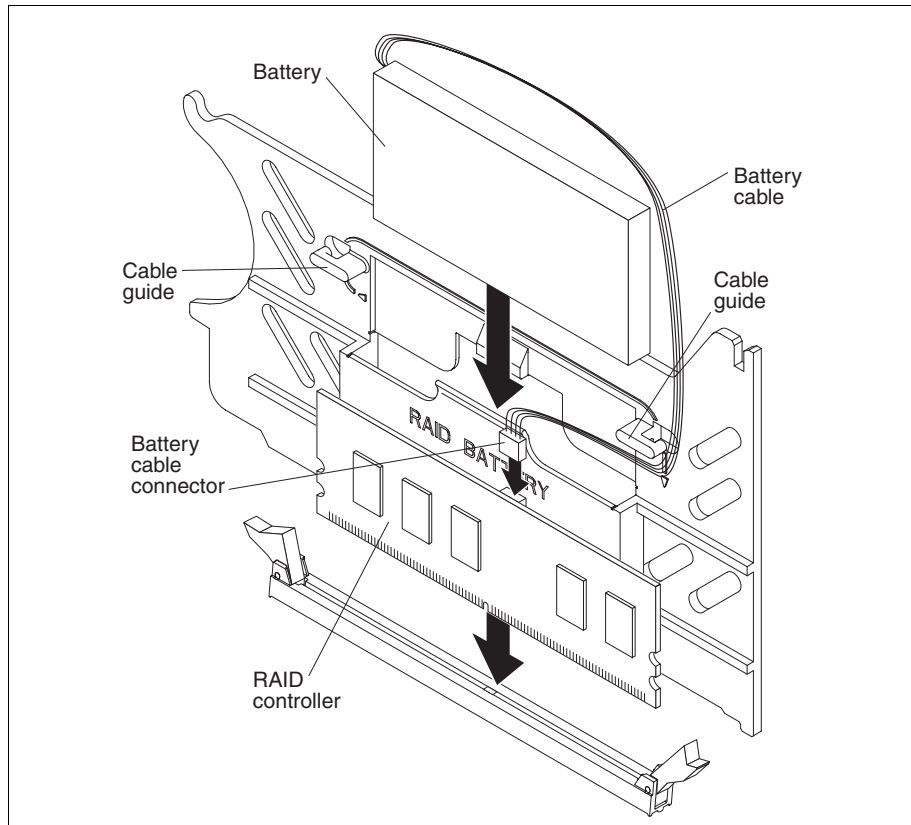

Figure 3-23 Installing the ServeRAID-MR10k
12. Insert the battery pack harness at the end of the cable into the J1 connector on the backside of the DIMM. See Figure 3-23.